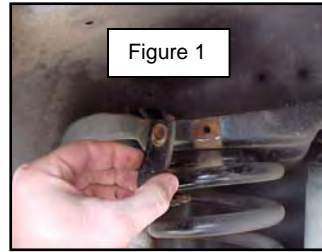

Figure 1
4. Remove the upper and the lower coil spring clamp bolt and nut with washer. See figure 1 and 2.